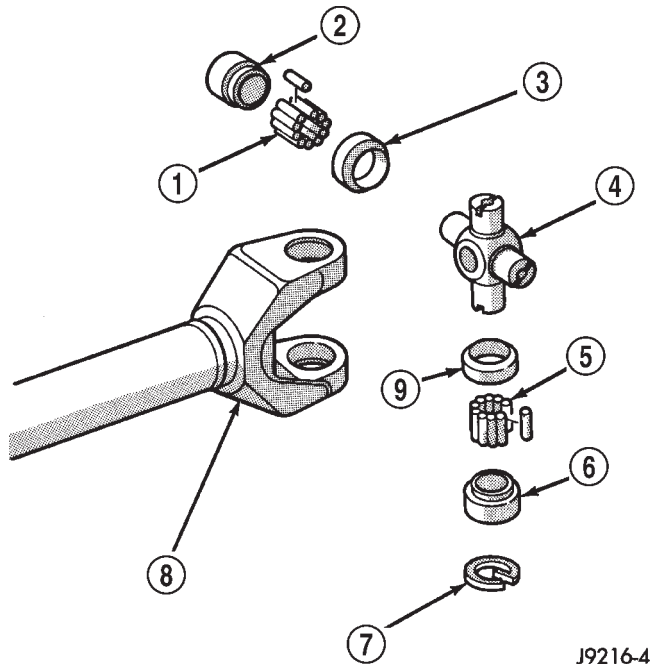

Fig. 3 Single Cardan Universal Joint
- Single cardan universal joint (Fig. 3)